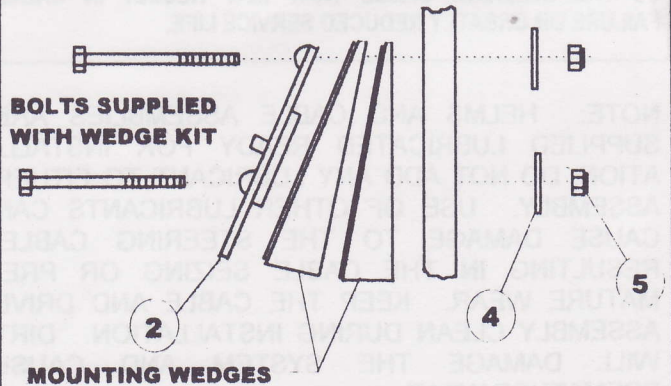

FIGURE 3
Step 1. Attach the helm mounting plate (supplied with the SB 39526 Bezel Kit along with mounting hardware) to the dash as described in figure 3: